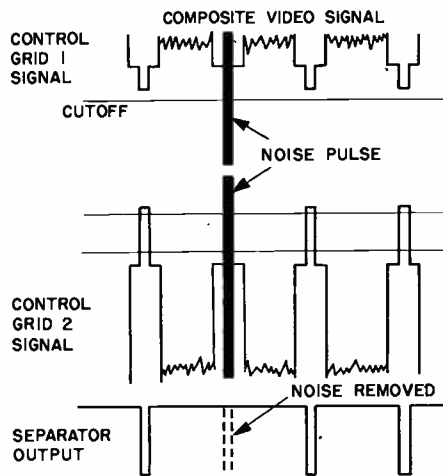

Fig. 15. Two video signals 180° out-of-phase are fed to the sync separator to produce effective noise cancellation.
The action of the noise-cancelling circuit is shown in the waveforms of Fig. 15. Notice in particular that the noise pulses are not just clipped, but are completely removed from the mixed synchronizing information that appears in the output of the separator, as a result of the complete cut-off of the separator during the presence of the noise pulse. Thus, if a noise impulse happens to occur immediately on top of a hori-
zontal sync pulse, as it does in Fig. 15, both the noise impulse and the sync pulse are removed. This does not upset the horizontal sync in the modern television receiver, because the horizontal synchronization depends upon the average frequency of the arriving sync pulses and not on the presence of each individual sync pulse.
- (t) Does the complete removal of a sync pulse as shown in Fig. 15 have any effect on oscillator synchronization? Why?